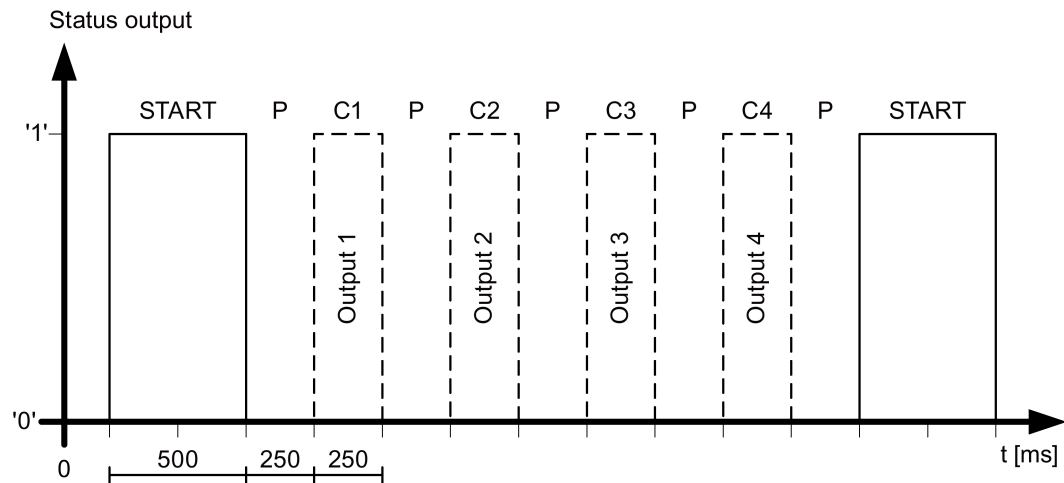

Figure 2-5 Status signaling
* The status of all four outputs is serially signaled using status output ④ (see Figure 2-5 Status signaling (Page 18)). A frame comprises a start bit START and four status bits C_i ($i=1 \dots 4$), which are each separated by a pause bit P. While the device powers up, or if the supply voltage is missing, nothing is signaled, the status remains continuously at '0'. For SIMATIC-S7 controllers (S7-300/400/1200/1500), a function block for evaluation is available under (<http://www.siemens.com/sitop>) or the direct link (<https://support.industry.siemens.com/cs/us/en/view/61450284>).